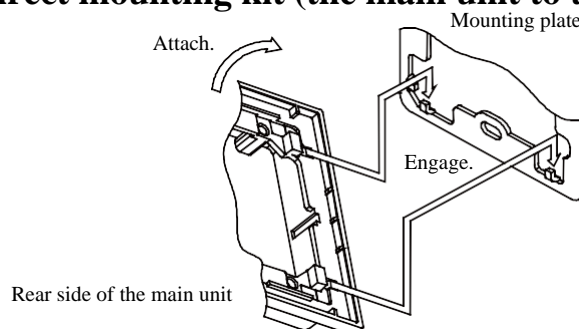

Figure 11. Assembling the Wall-direct mounting kit
- 2) Attach the main unit of the Wall-direct mounting kit to the mounting plate. (See Fig. 11.)